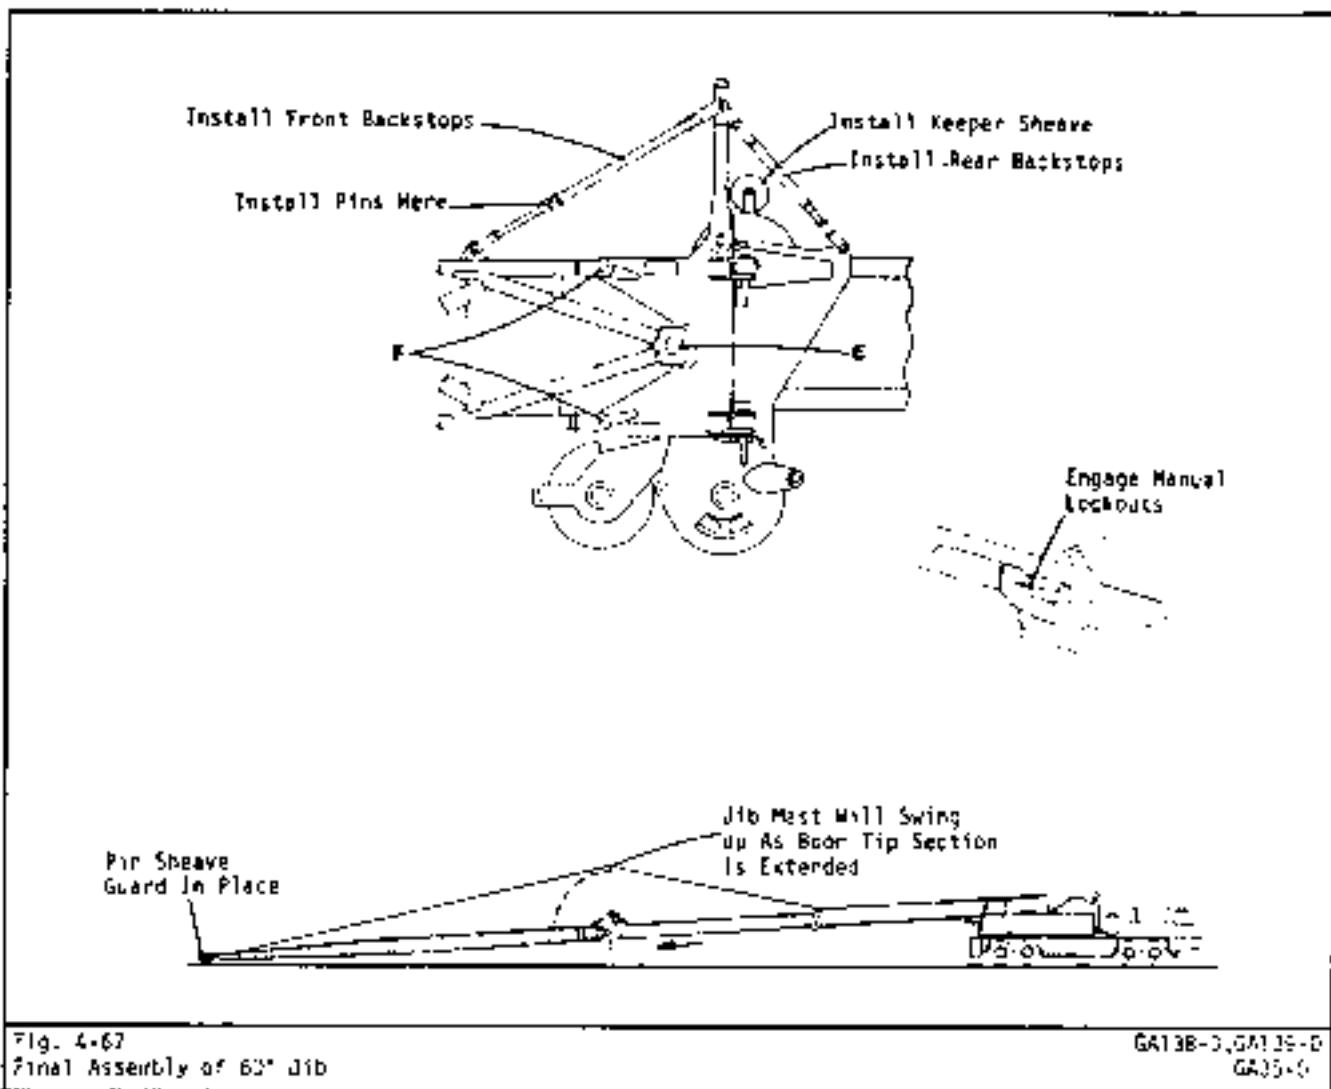

Fig. 4-67
- Step 10: Refer to Fig. 4-67. Make certain of proper pin
- Step 11: With boom tip section fully extended, engage manual lockouts on boom middle section. Install front and rear backstops as in Fig. 4-67. Reeve hoist rope thru jib head sheave and secure sheave guard in place. Install keeper sheaves.